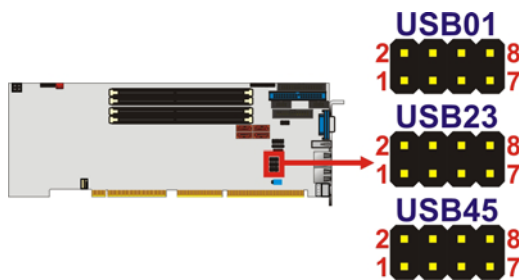

Figure 3-17: USB Port Connector Location
- CN Location:** See Figure 3-17